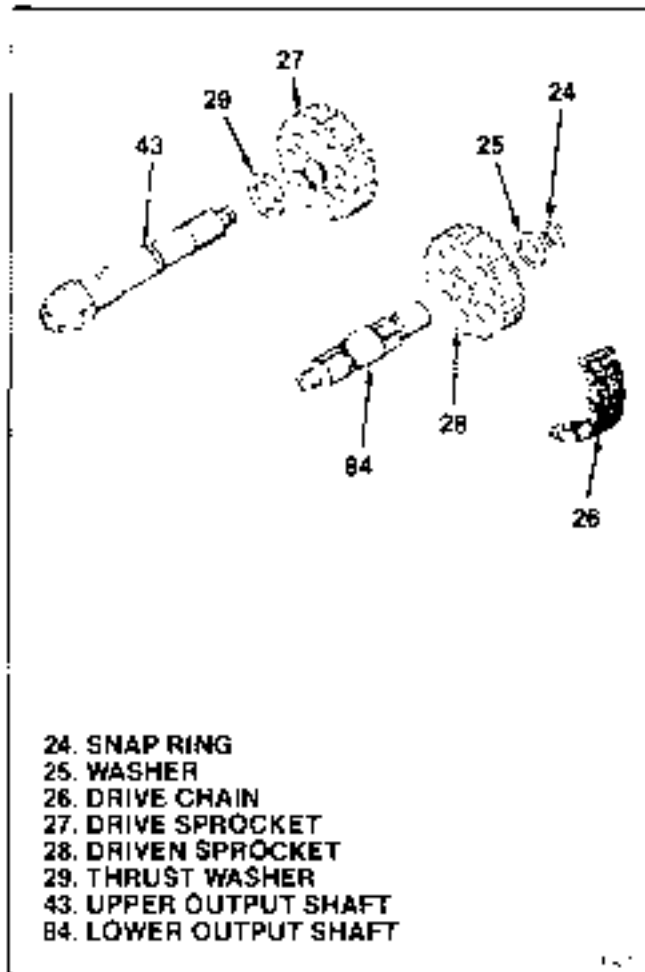

Figure 5-13. Chain Drive
**5-12. INSTALLATION OF CHAIN DRIVE.** To assembly as completed, thus kit (30 through 93) assemble parts as follows, see figure 5-13:
a. Install thrust washer (29) so that it seats on shoulder of upper output shaft (43).
b. On work bench, next to transfer case assembly, position driven sprocket (28) with internal spline at lower output shaft (54) end of case and drive sprocket (27) with smooth bore at upper output shaft (43) end.
c. Assemble drive chain (26) around sprockets (27 and 28).
d. Grasp each sprocket (27 and 28), hold drive chain (26) tight and parallel with transfer case, and install chain drive assembly (26) through (28) over output shafts (84 and 43). It may be necessary to rotate driven sprocket (28) slightly to engage splines on lower output shaft (84).
e. Install washer (25) on lower output shaft (84). Install snap ring (24) in shaft groove over washer.